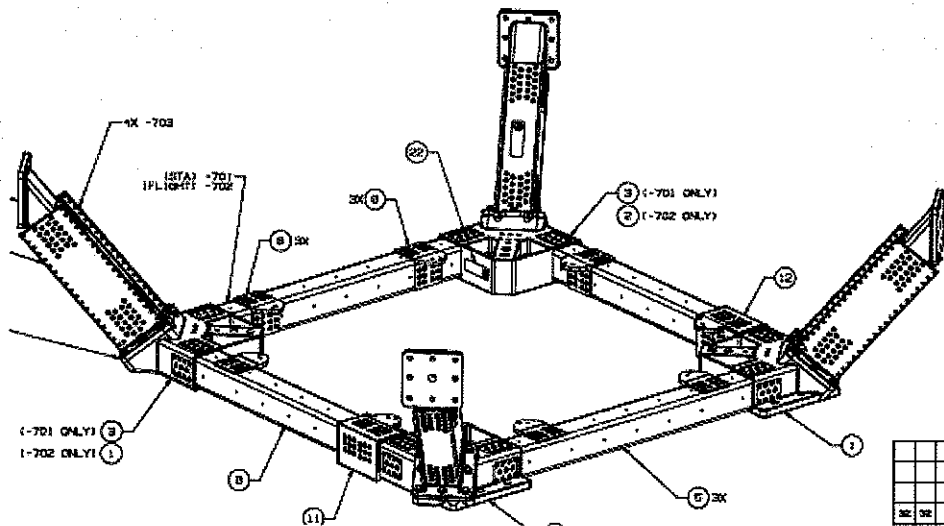

Figure 2
3. Using 4 straps, strap the LUSS around the four tubes, item 5 and 6 as seen in Figure 2, and attach the other ends of the straps to the crane. Straps should have a WLL of 750 lb each, minimum.
7. Strap the LUSS around the four tubes, item 5 and 6 as seen in Figure 2, and attach the other ends of the straps to the crane. Use same straps as used previously.